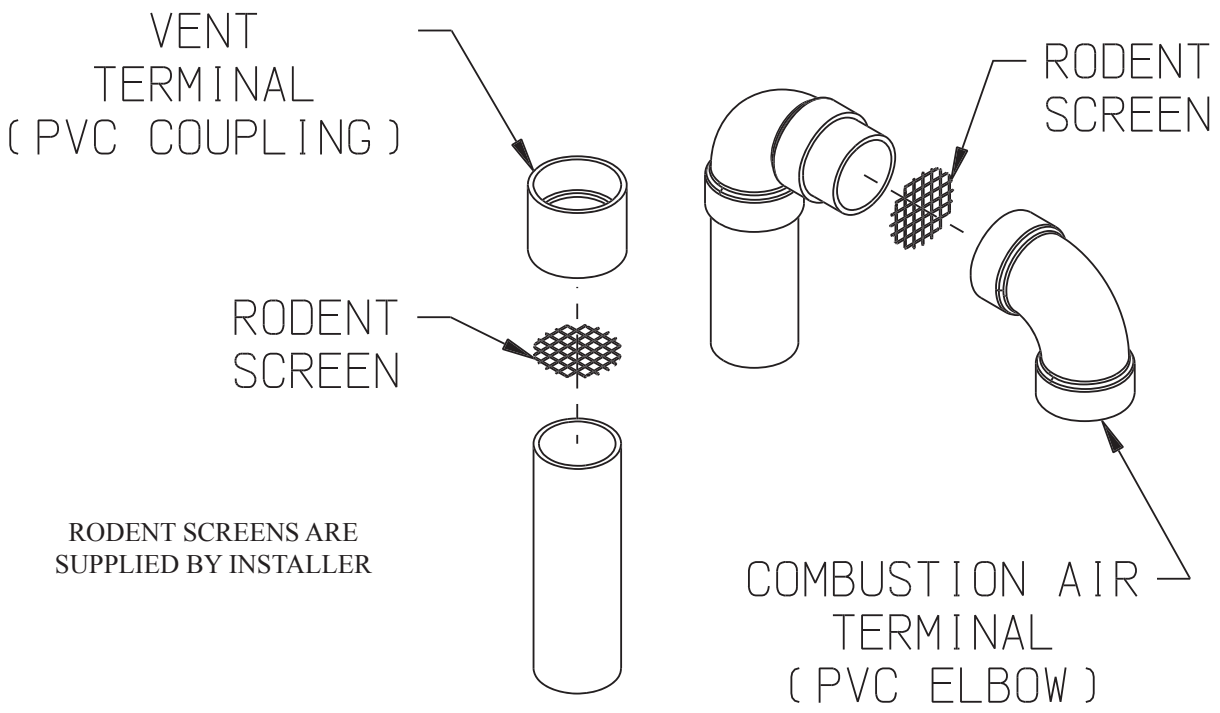

FIGURE 7.19: INSTALLATION OF STANDARD VERTICAL TERMINALS
- a. See Figure 7.19 for the proper orientation of twin pipe vertical terminals.
- c. A 180° bend (or two 90° elbows) are installed on the top of the air intake pipe. If two 90° elbows are used, the rodent screen provided can be installed between them (Figure 7.19). If a 180° bend is used, install the rodent screen in the open side of the bend, using a ring made of PVC pipe. If desired, the termination fittings can be attached to the end of the vent and/or intake pipes with field supplied stainless steel screws so that they can be later removed for cleaning and inspection. If this is done, drill a clearance hole in these fittings and a tap hole in the end of the vent/intake pipes to accept these screws.